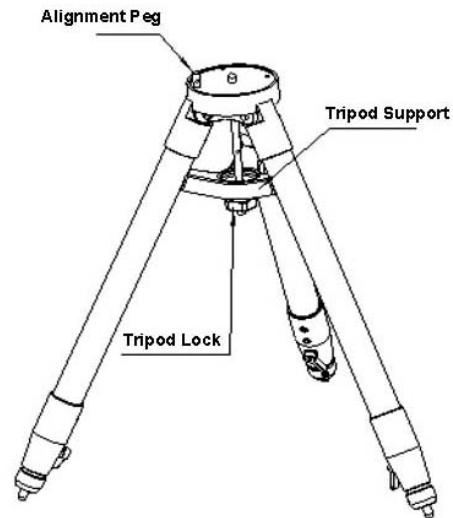

Figure 1
1. **Setup tripod:** Expand the tripod legs and lock the Tripod Support so that the tripod legs stay open (Figure 1). Adjust the tripod height by unlocking and re-locking the tripod legs to desired height. Position the tripod so that the Alignment Peg faces north. **(The Alignment Peg may be moved to the opposite position if used at latitude lower than 20° to avoid counterweights hit the tripod leg)**